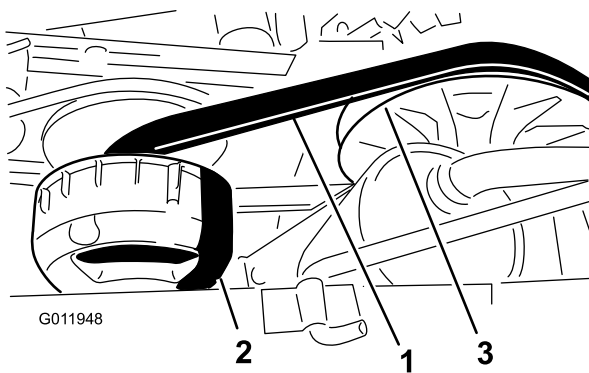

Figure 66
4. Rotate and inspect the belt (Figure 66) for signs of excessive wear or damage.
3. Rotate and route the belt over the secondary clutch (Figure 66).
4. Remove the belt from the primary clutch (Figure 66).
5. Align the new belt over the primary clutch (Figure 66).
6. Rotate and route the belt over the secondary clutch (Figure 66).